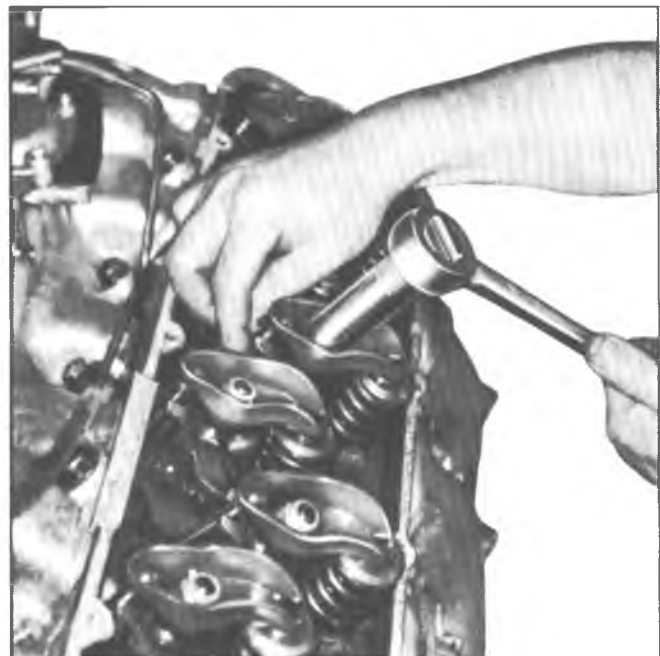

Fig. 6V—Valve Adjustment
- c. Back out adjusting nut until lash is felt at the push rod then turn in adjusting nut until all lash is removed. This can be determined by checking push rod side play while turning adjusting nut (fig. 6V). When play has been removed, turn adjusting nut in one full additional turn (to center lifter plunger).